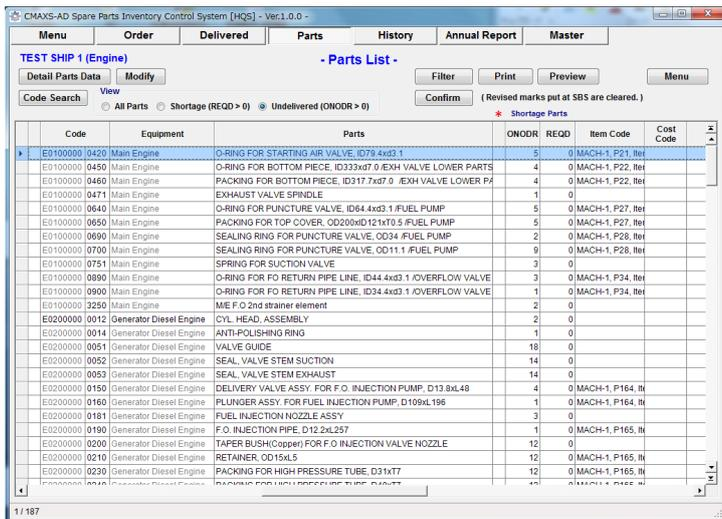

Fig.18-3 Parts List Screen
- (1) Select [SMS] on the "Parts List Screen"(Fig.18-3).